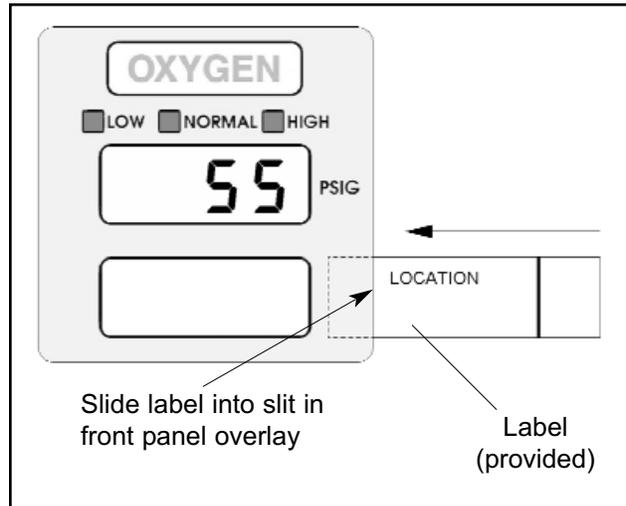

Figure 37: Digital Display Module
2. Slide location label into pocket in front of digital display module (Figure 37).